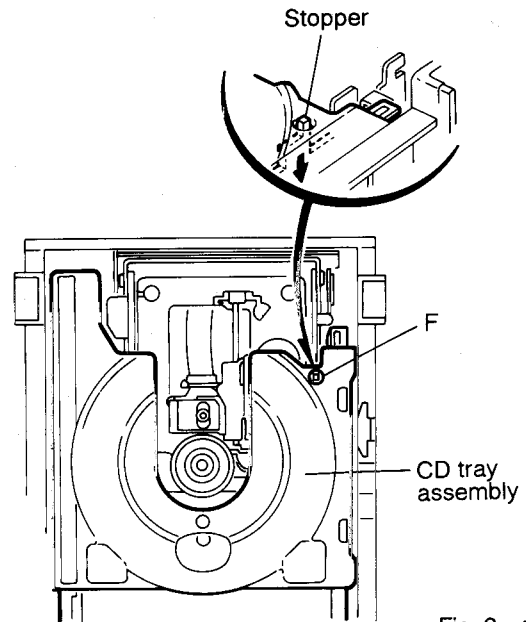

Fig. 2-13
11. Check whether the lifter unit stopper has been caught into the hole at the section (F) of CD tray assembly as shown in Fig. 2-13.
13. Manually turn the motor pulley in the clockwise direction until the lifter unit stopper is lowered from the section (F) of CD tray assembly (See Fig. 2-13).